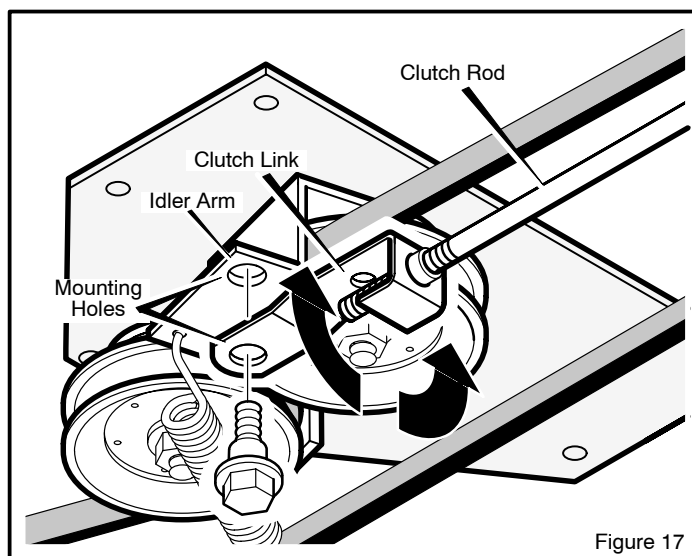

Figure 17
2. Disconnect the **clutch link** from the **idler arm** (Figure 17).
4. Rotate the **clutch link** until the mounting hole in the **clutch link** is aligned with the hole in the **idler arm** as shown in Figure 17.
5. Connect the **clutch link** to the **idler arm** (Figure 17).